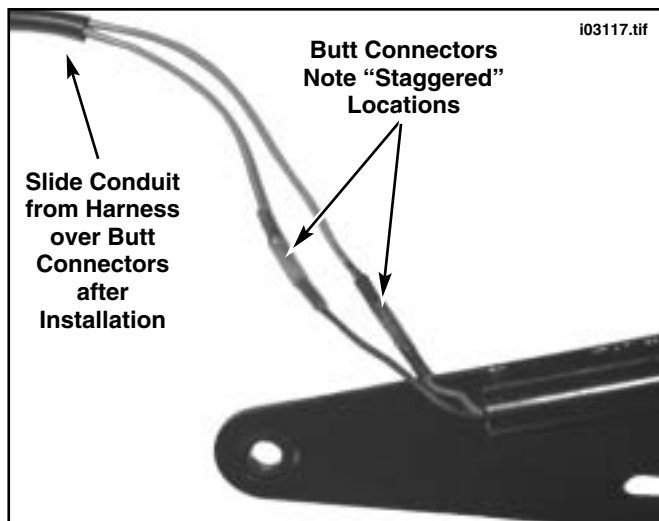
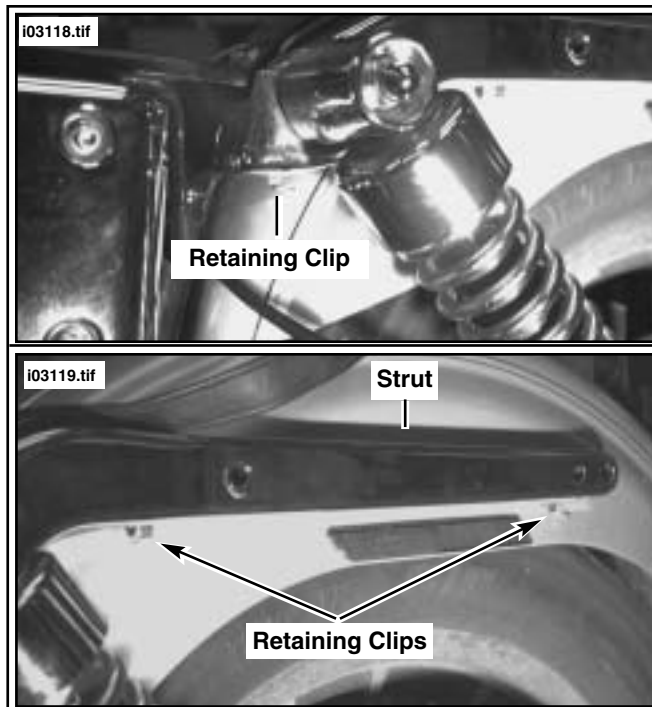

Figure 8. Install Wiring Harness
Figure 9. Install Wire Harness Retaining Clips
14. See Figure 8. Obtain Wiring Harness and two Sealed Butt Connectors from kit. Following instructions in Service Manual under "Installing Sealed Butt Connectors", match wire colors and splice wiring from turn signal to harness. Slide conduit from harness over Butt Splices and approximately 2 inches into bracket tube.
15. See Figure 9. Obtain three adhesive backed wire harness retaining clips (P/N 10102). Remove adhesive and install clip under fender strut in front of rear shock as shown in upper portion of Figure 8. Install two remaining clips under fender strut at locations shown in lower portion of Figure 8.